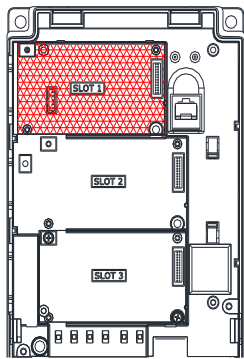

Figure 1
Step 1: Insert the EP301 card into the SLOT 1 on the control board as shown in Figure 1. Do not insert to SLOT 2 or SLOT 3 .